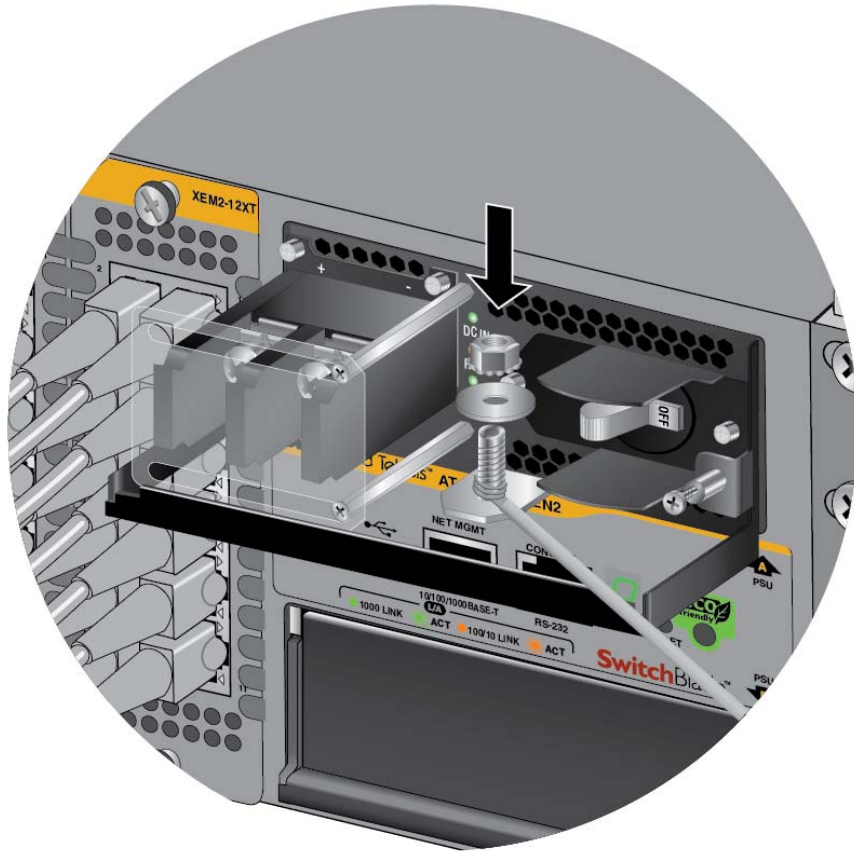

Figure 66. Securing the Bare Grounding Wire to the Grounding Post
5. Secure the wire with the nut and washer removed in step 2, and an 8 mm wrench, as shown in Figure 66.